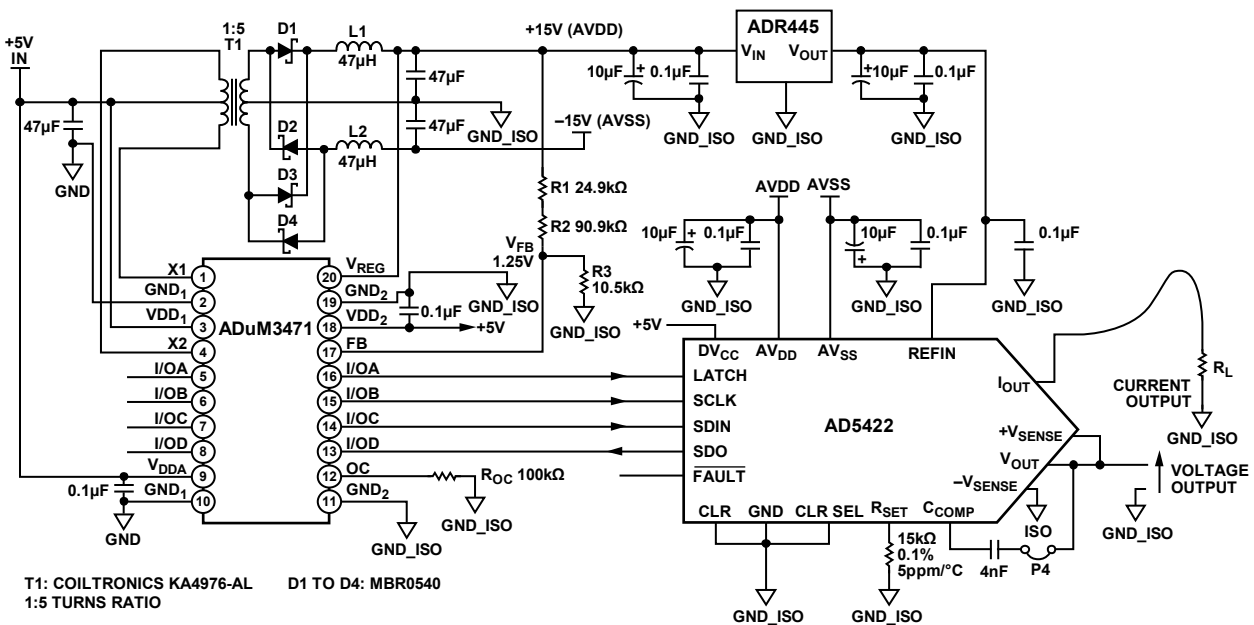

Figure 1. Isolated 16-Bit Current and Voltage Output DAC with Isolated Power Supplies
The circuit in Figure 1 provides 16-bit fully isolated ± 10 V and 4 mA-to-20 mA outputs suitable for programmable logic controllers (PLCs) and distributed control systems (DCSs).
- Changes to Circuit Function and Benefits Section and Figure 1 1